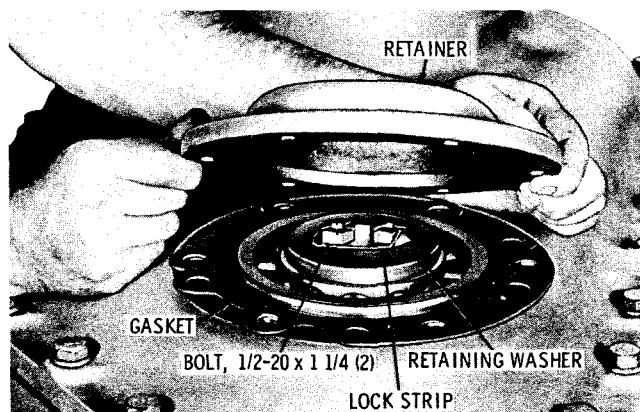
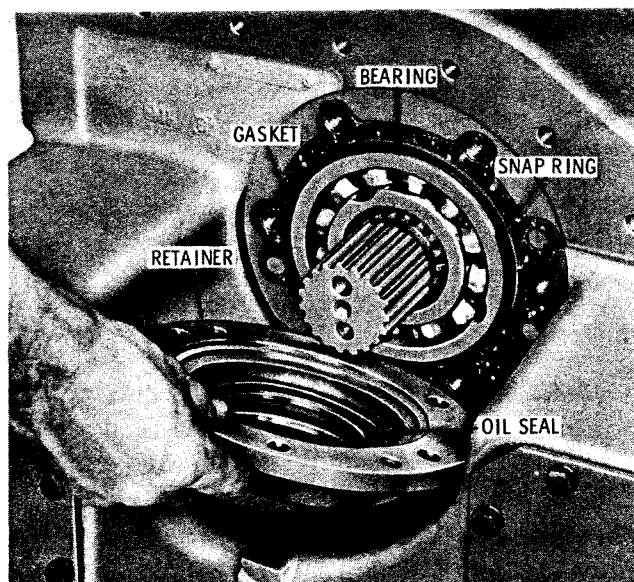

Fig. 7-7. Installing rear bearing retainer (models with only front output)
Fig. 7-8. Installing output shaft front bearing retainer
(23) On transmissions having only a front output, follow the instructions in (24) and (25), below.
(24) Establish shims at the end of the output shaft as outlined in paragraph 4-8b, above. Install the shims, retaining washer, lock strip and two 1/2-20 x 1 1/4-inch bolts (fig. 7-7). Tighten the bolts to 96 to 115 pound feet torque. Bend a corner of the lock strip against each bolt head.
(25) Install the retainer gasket and bearing retainer (fig. 7-7). Install six 1/2-13 x 1 3/8-inch bolts, with lock washers, to secure the retainer. Tighten the bolts to 67 to 80 pound feet torque.
(26) On transmissions which have a front output, follow the instructions in (27) and (28), below.
(27) Install the retainer gasket and bearing retainer with oil seal (fig. 7-8). Install six 1/2-13 x 1 3/8-inch bolts, with lock washers. Tighten the bolts to 67 to 80 pound feet torque.